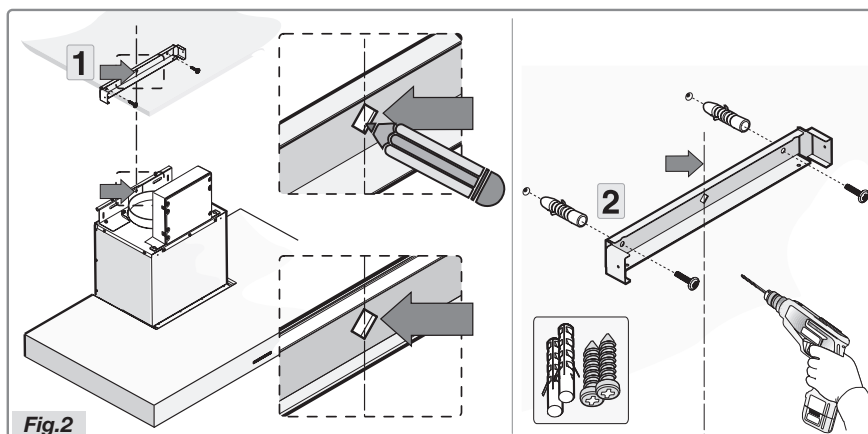

Fig. 2
- Position the bracket referring to the dimensions in Figure A and secure this with the supplied screws and plugs (Fig. 2).